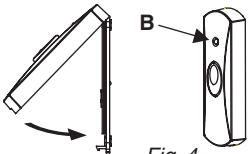

Fig. 4
When the bell push button is pressed, the confidence light (B) in Fig. 4, will illuminate to reassure the caller that the bell push is working. The light will flash 5 times when the battery needs replacing